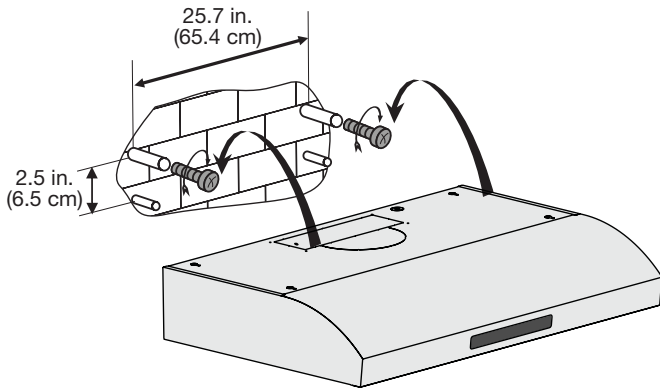

Figure 14
- Mark or drill four  $\varnothing$  8 mm holes on the mounting position according to the dimensions on Figure 14.